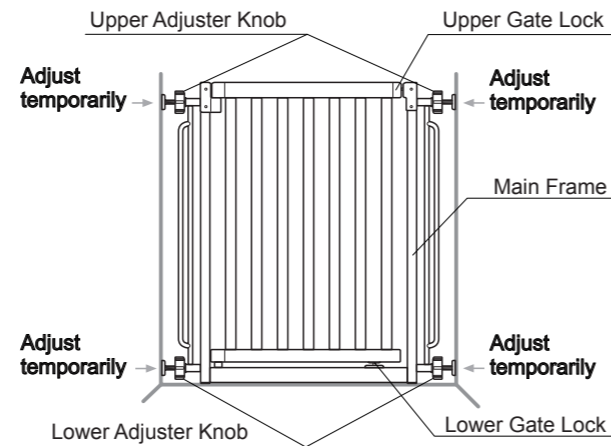

Figure 1
- Determine the direction for opening the Gate Door and prepare the product for mounting by tightening the Upper Adjuster Knobs temporarily (Fig. 1).
- The bottom of product should make contact on the floor (Fig. 1).